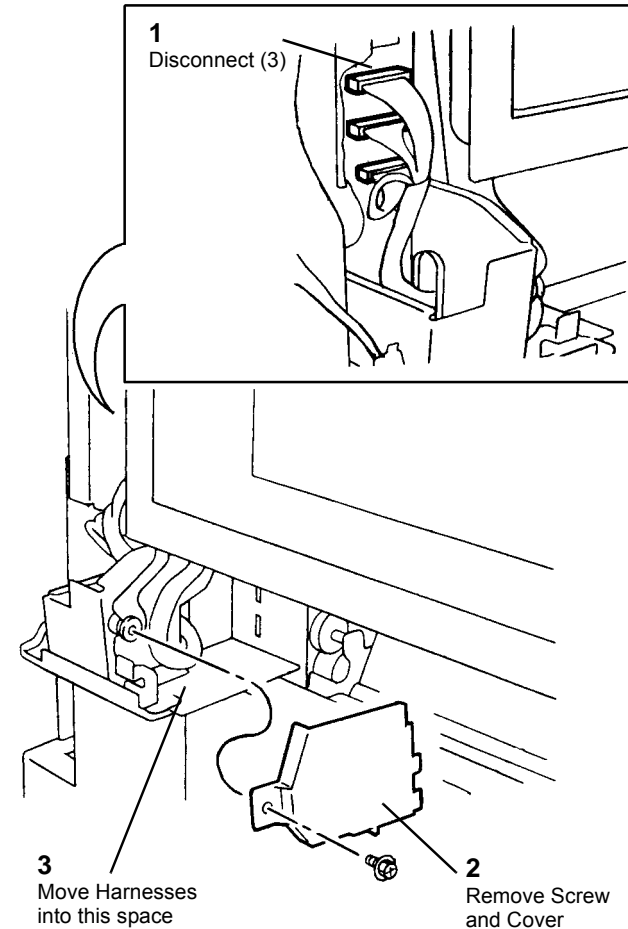

Figure 1 Disconnecting Electrical Connectors (3)
7. Disconnect Electrical Connectors (3) (Figure 1).